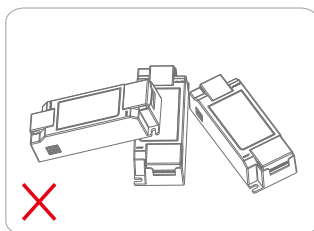

Figure 1
- 1.The driver should be a certain distance between the drives, as shown in Figure 1.